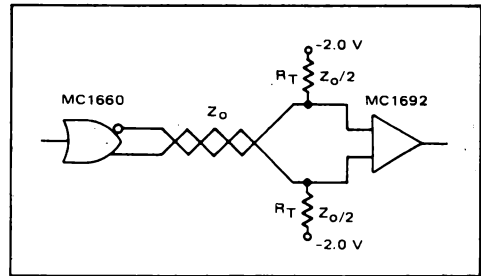

FIGURE 31 – TWISTED PAIR LINE DRIVER/RECEIVER
If timing is critical, parallel signal paths (shown in Figure 31) should be used when fanout to several cards is required. This will eliminate distortion caused by long stub lengths off a signal path.
1. The OR/NOR outputs of an MC1660 may be used to drive into twisted pair lines or into flat, fixed-impedance ribbon cable. At the far end of the twisted pair an MC1692 differential line receiver is used. The line should be terminated with two $Z_0/2$ ohm resistors as shown in Figure 31. This method not only provides high speed, board-to-board clock distribution, but also provides system noise margin advantages. Since the line receiver operates independently of the V_{BB} reference voltage (differential inputs) the noise margin from board to board is also independent of temperature differentials.